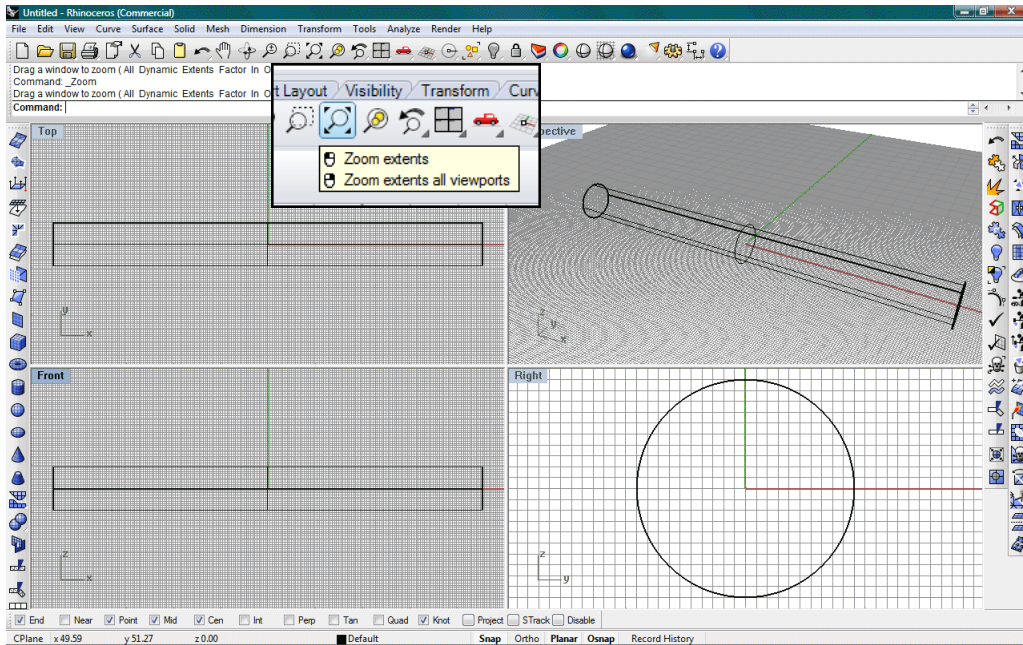

Figure 90: First horizontal cylinder
40. Enter **100** on the command line followed by **<ENTER>** to complete the construction of a closed 200 m long horizontal cylinder. Right-click on **Zoom Extents All Viewports**¹ to get a full view of the model so far (Figure 90).